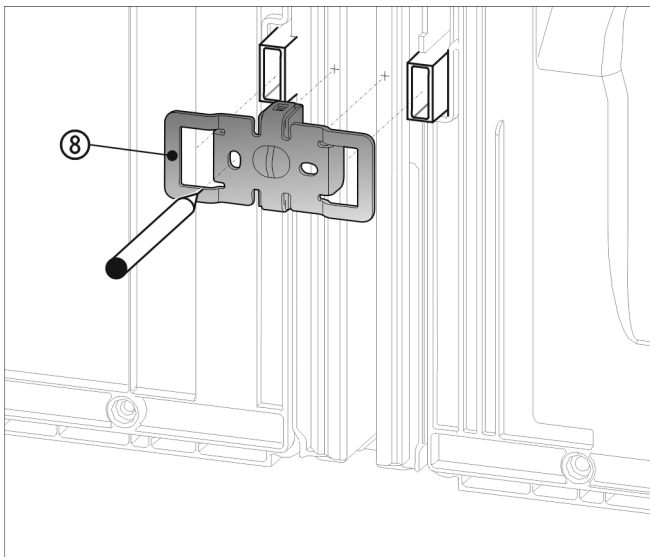

Fig. 20
- ▶ Slide the bracket Fig. 20 (8) on with the slots over the retainer for the wall spacers.